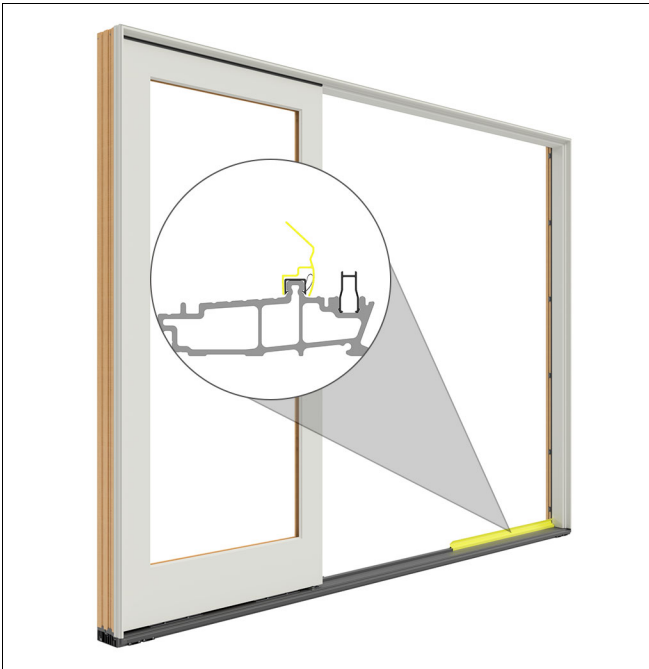

Figure 34
**12.** Install weatherstrip jig on the interior side. Install the leading edge of the jig under the weather strip bulb, then rotate the jig to the exterior so the back edge snaps onto the exterior leg of the weather strip. See Figure 34.